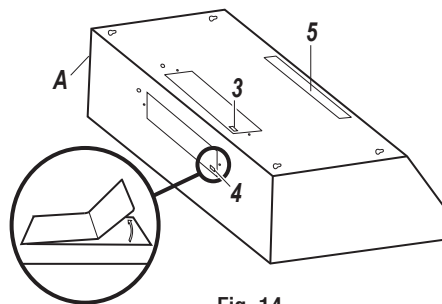

Fig. 14
- Choose the venting hole to remove for your installation type. Use the top hole (3) for a top venting installation and the back hole (4) for a back venting installation (not available in QR019) and top hole 5 for when you do not have the exterior exhaust, but will use the interior feature (available in units QR001, QR003 & QR006).
- If you are using an exterior venting, carefully remove the cover (3 or 4) for the appropriate venting hole using a flathead screwdriver or needle nose pliers (see Fig. 14). Be careful not to leave any debris inside the range hood (A).